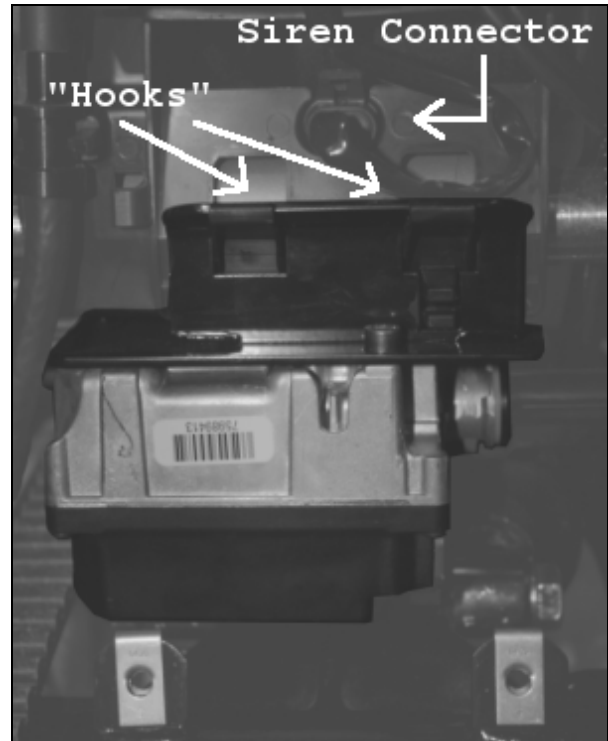

Figure 3. Cruise Control Module Installed
- See Figure 3. Unplug security siren connector from holder, and remove harness from electrical bracket (you will reposition this later). Position cruise control module bracket on motorcycle such that the top mounting slots fit over the security siren "hooks" on electrical bracket. The lower two cruise control module bracket bolt holes will line up with holes in the transmission casting. Position nut retaining plate on top of transmission casting over the two holes. Apply liquid thread lock to provided 1/4" bolts and insert through cruise control bracket, through transmission casting and tighten into
- Secure CCWH to main circuit breaker wire harness using supplied cable ties. See Figure 3 – CCWH is visible to right of cruise control module.